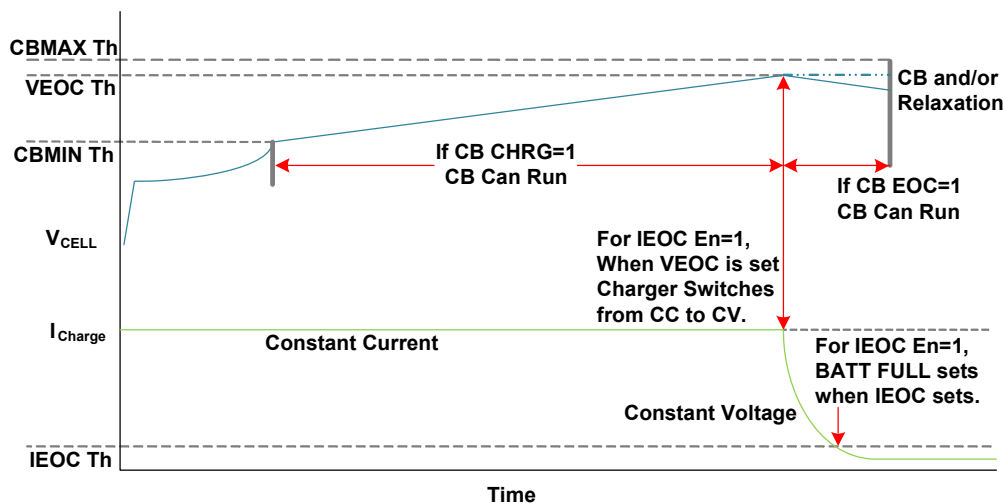

Figure 108. A Typical Charge Characteristic Curve
The ISL94216 has features that support both Constant Current (CC) and Constant Voltage (CV) charging. A typical charging profile for a battery cell is depicted in Figure 108. Cell balancing can occur only when the cell voltage is between the CBMIN and CBMAX limits, which are independent of CB EOC and CB CHRG bit settings.